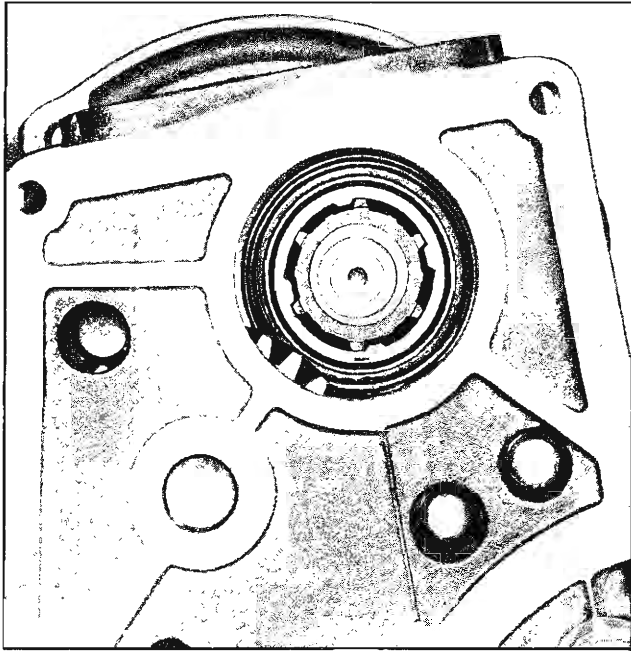

Fig. 7-20 Synchronizer Tangs Aligned with Mainshaft Splines
**CAUTION:** Be sure synchronizer ring tangs are lined with the mainshaft splines (Fig. 7-20) prior to driving out shaft, otherwise damage to ring and shaft splines will occur.